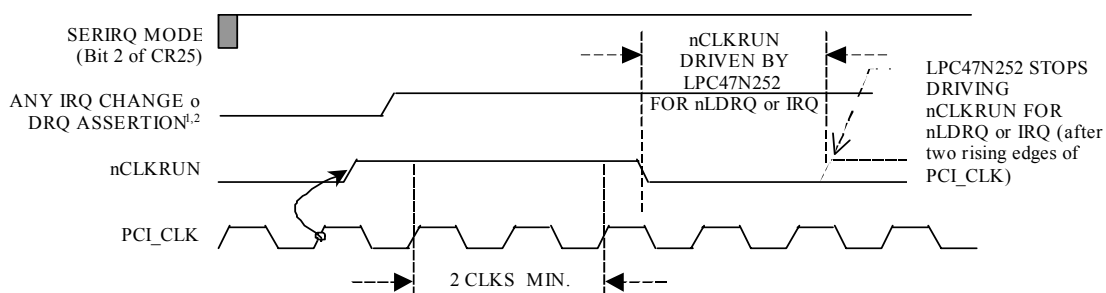

Figure 24.2 Clock Start Illustration
If a device in the LPC47N350 asserts or de-asserts an interrupt and CLKRUN# is sampled "high", the LPC47N350 can request the restoration of the clock by asserting the CLKRUN# signal asynchronously (Table 24.1). The LPC47N350 holds CLKRUN# low until it detects two rising edges of the clock. After the second clock edge, the LPC47N350 must disable the open drain driver (Figure 24.2).
The LPC47N350 must not assert CLKRUN# unless the line has been deasserted for two successive clocks; i.e., before the clock was stopped (Figure 24.2).
2. The LPC47N350 must continually monitor the state of CLKRUN# to maintain the PCI Clock until an active "any IRQ change" condition has been transferred to the host in a Serial IRQ cycle. For example, if "any IRQ change or DRQ assertion" is asserted before CLKRUN# is de-asserted (not shown in Figure 24.2), the LPC47N350 must assert CLKRUN# as needed until the Serial IRQ cycle has completed.